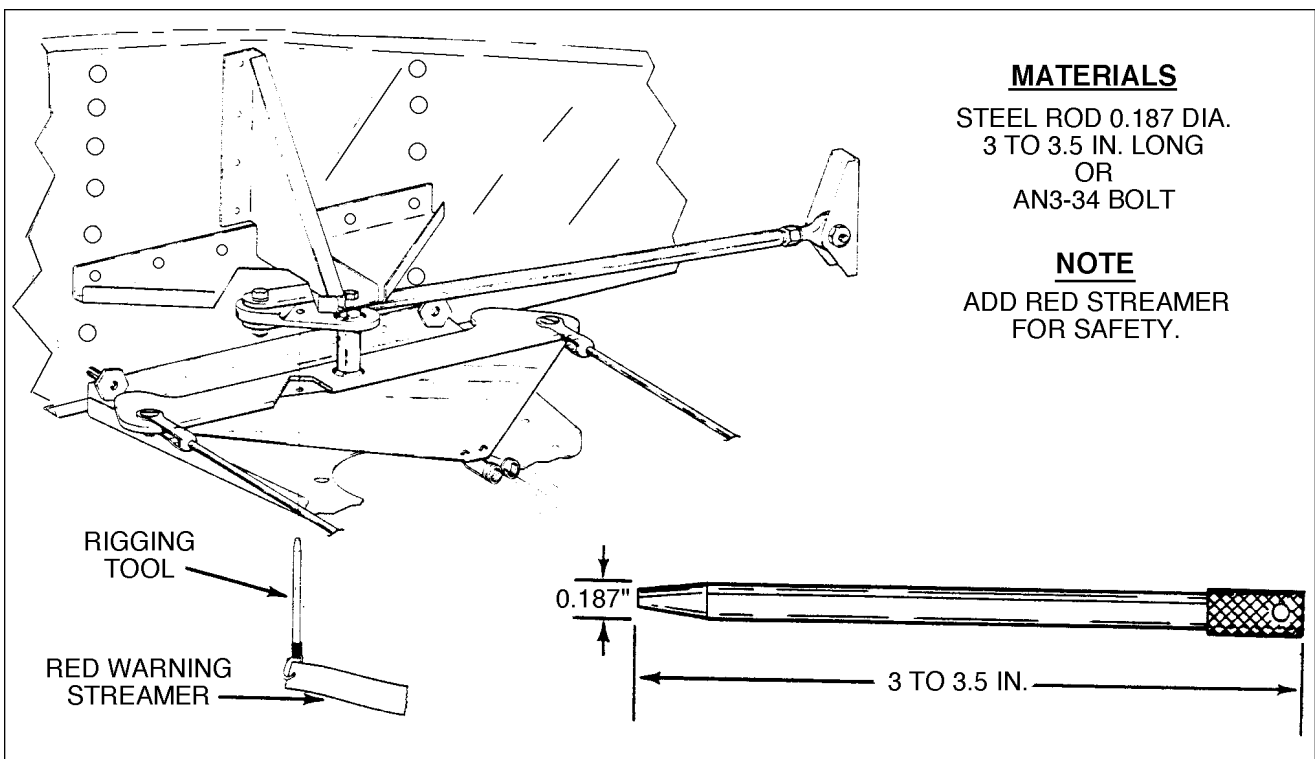
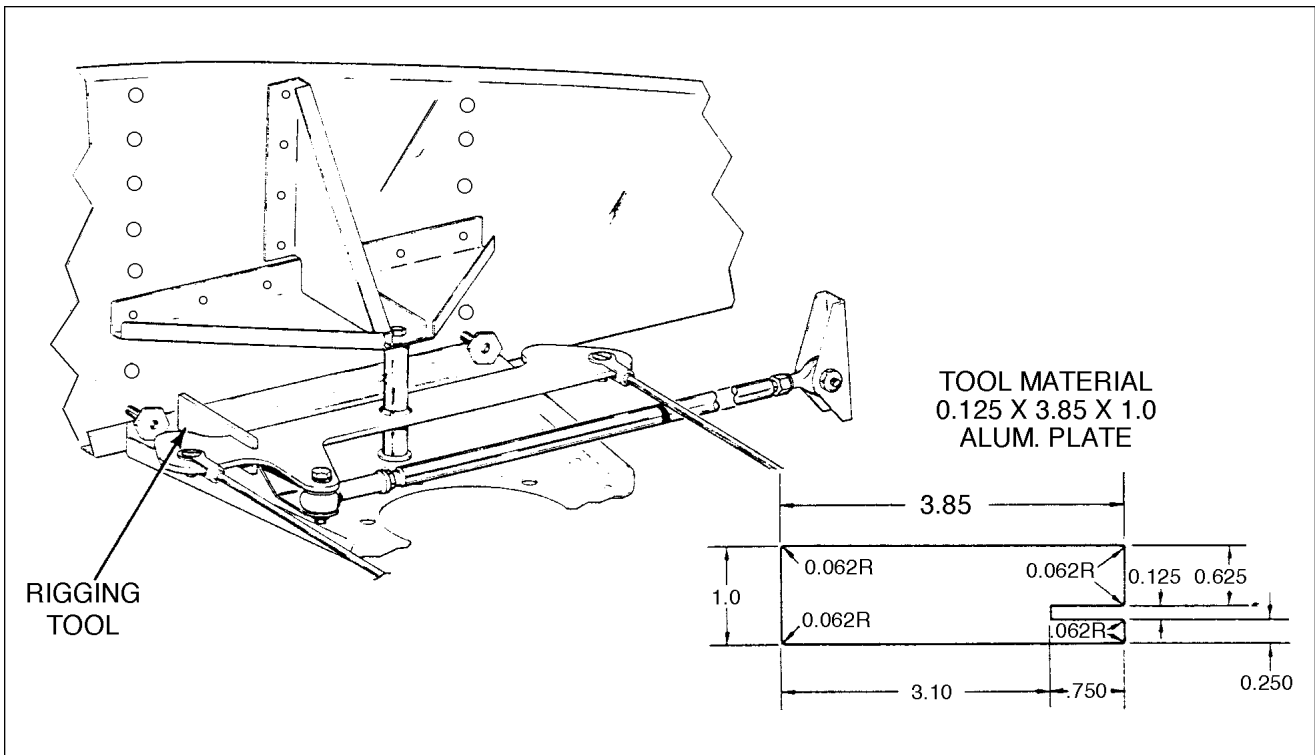

Figure 5-9. Bellcrank Rigging Tool (1974 and 1975 Models Only)
Figure 5-10. Bellcrank Rigging Tool (1976 and Subsequent Models)
(Refer to Figure 5-9 or Figure 5-10.)
- 2. On 1974 and 1975 models install a bellcrank rigging pin, as shown in Figure 5-9, through the arm of each bellcrank and the support bracket. (This tool may be fabricated from dimension given in Figure 5-9.)
3. On 1976 and subsequent models affix a bellcrank rigging tool, as shown in Figure 5-10, between the forward arm of each bellcrank and the adjacent rib. (This tool may be fabricated from dimensions given in Figure 5-10.) The slotted end of the tool fits on the arm forward of and adjacent to the primary control cable end. The other end of the tool is positioned so that the side of the tool contacts the aft side of the bellcrank stop. The bellcrank must be moved to allow a snug fit of the tool between the bellcrank arm and rib. To do so, it may be necessary to loosen a primary control cable or the balance cable. The neutral position may also be found by locating the position at which the forward and aft cable connection holes are an equal distance from the adjacent outboard wing rib.